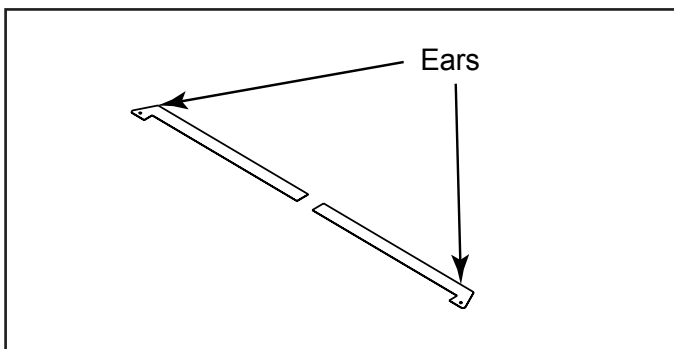
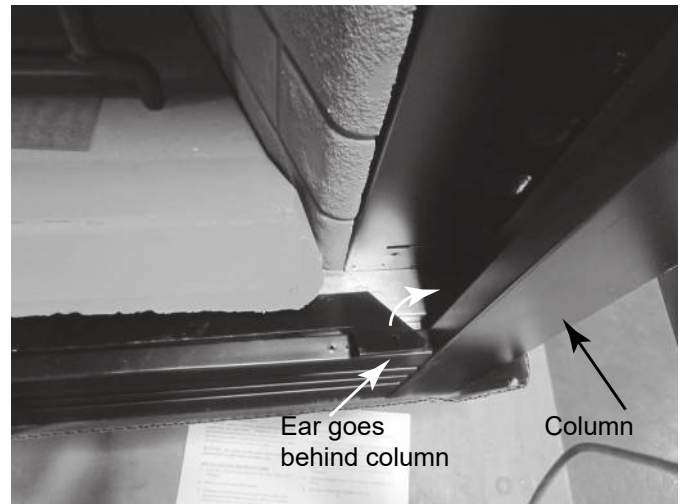

Figure 3 Front Fillers
Figure 4
4. Lift up front of the hearthstone. While pulling stone forward, hold it up and slip both front fillers under the stone making sure the ears fit in behind the columns of the appliance. Push and sit the stone back into the appliance. See Figure 3 and Figure 4.